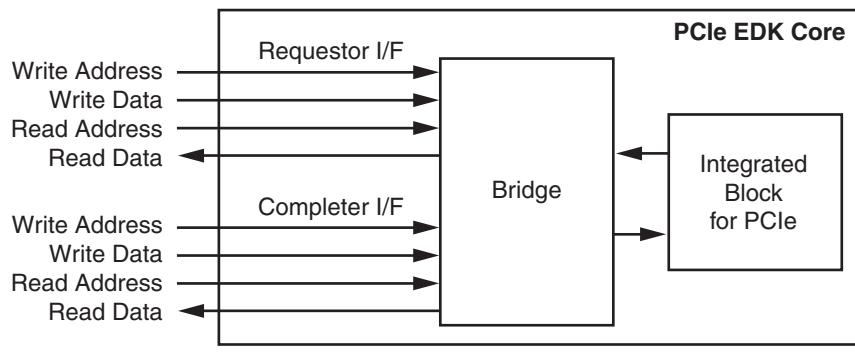

Figure 3: Basic AXI4 Interface
3. AXI4: This is a memory-mapped interface for use with processor system-based cores. This interface is the migration path for embedded designs and is available on Artix-7, Kintex-7, Virtex-7 T, and Virtex-7 XT FPGAs for PCI Express solutions. See Figure 3.